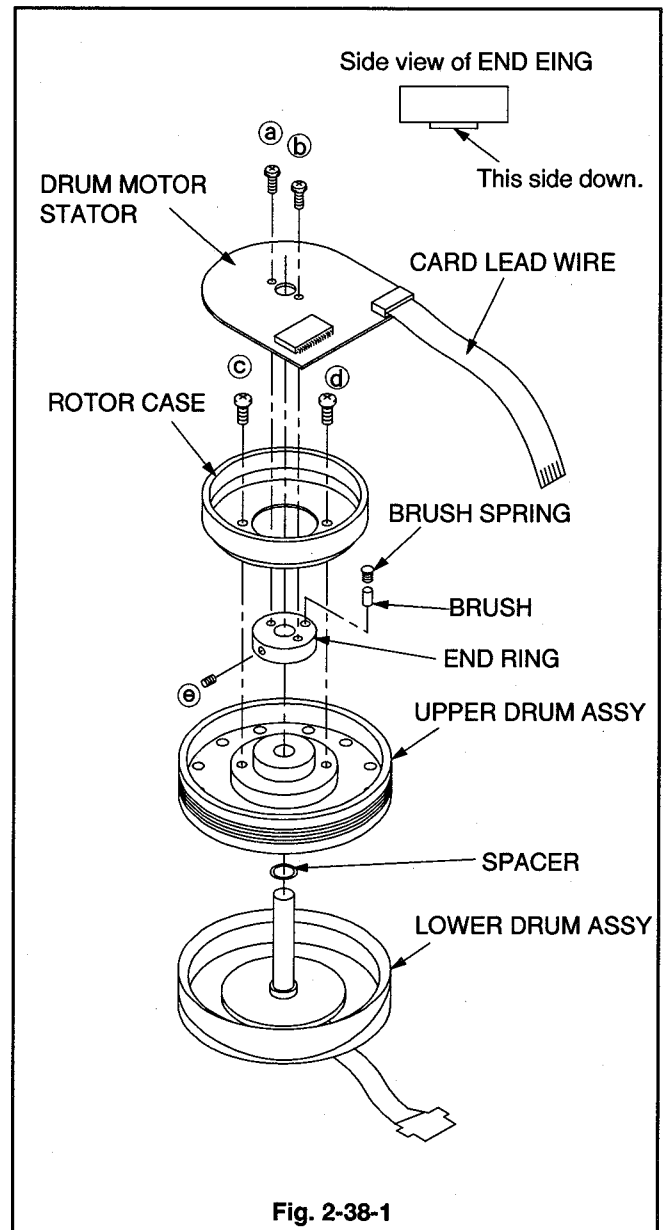
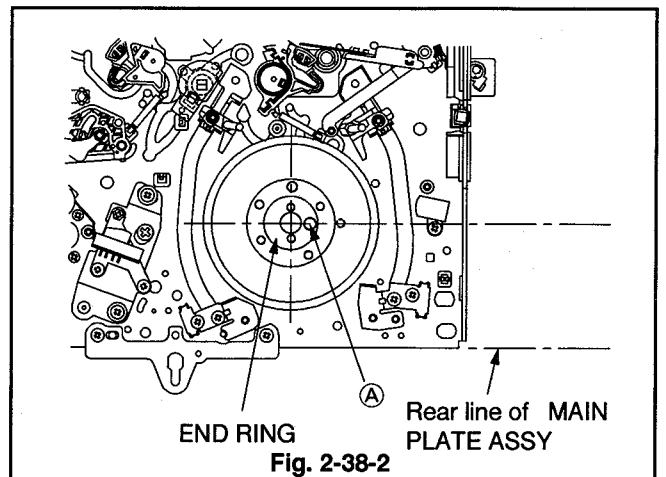
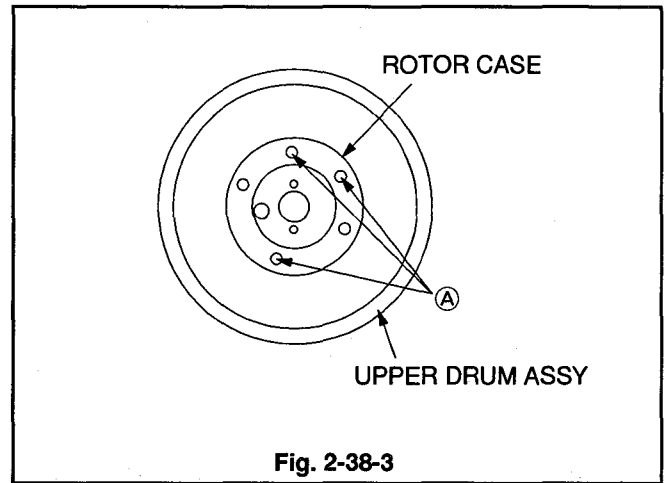

Fig. 2-38-1
Fig. 2-38-2
Fig. 2-38-3
- 1 Disconnect the CARD LEAD WIRE of the DRUM ASSY shown in Fig. 2-38-1.
- 2 Unscrew the two DRUM MOTOR STATOR fastening screws (a) and (b) shown in Fig. 2-38-1 to remove the DRUM MOTOR STATOR.
- 3 Unscrew the two ROTOR CASE fastening screws (c) and (d) shown in Fig. 2-38-1 to remove the ROTOR CASE.
- 4 Loosen the END RING fastening screw (e) [hexagon screw] shown in Fig. 2-38-1 to remove the END RING.
- 5 Remove the BRUSH SPRING shown in Fig. 2-38-1.
- 6 Remove the BRUSH shown in Fig. 2-38-1.
- 7 Remove the UPPER DRUM ASSY shown in Fig. 2-38-1.
- 8 Remove the SPACER shown Fig. 2-38-1.
- 1 Install the SPACER shown in Fig. 2-38-1.
- 2 Install the UPPER DRUM ASSY shown in Fig. 2-38-1.
- 3 Install the END RING shown in Fig. 2-38-1 so that the reference hole (A) of the END RING is located in parallel with the rear line of the MAIN PLATE ASSY shown in Fig. 2-38-2.
- 4 Apply screw sealing agent to the END RING fastening screw (e) [hexagon screw] shown in Fig. 2-38-1.
- 5 Install the ROTOR CASE shown in Fig. 2-38-1 so that the reference holes (A) match each other at three points between the ROTOR CASE shown in Fig. 2-38-3 and the UPPER DRUM ASSY.
- 6 Install the BRUSH shown in Fig. 2-38-1.
- 7 Install the BRUSH SPRING shown in Fig. 2-38-1.
- 8 Install the DRUM MOTOR STATOR shown in Fig. 2-38-1.
- 9 Connect the CARD LEAD WIRE of the DRUM ASSY shown in Fig. 2-38-1.